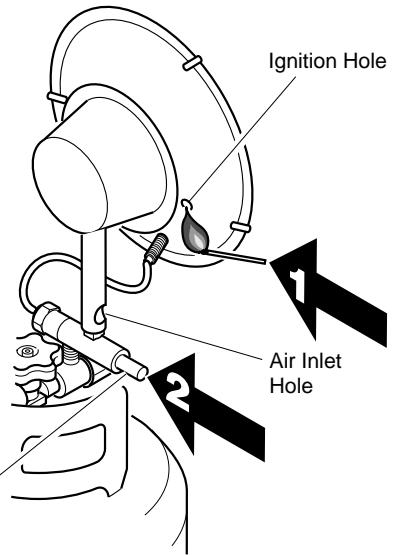

Figure 3
3. **WARNING: Stand to the side of the heater while lighting. Do not stand or have any part of your body in front of heater while lighting.** Locate ignition hole in underside of burner (see Figure 3). Hold a lit match under ignition hole.
- CAUTION: Do not insert match into air inlet holes in mixing tube.** Push in the safety shutoff valve plunger (see Figure 3). **WARNING: Do not push in safety shutoff valve plunger before inserting lit match.** Burner should light. Mesh screen on burner glows red when lit. After burner is lit, continue holding in safety shutoff valve plunger for 10 to 30 seconds until heater stays lit.